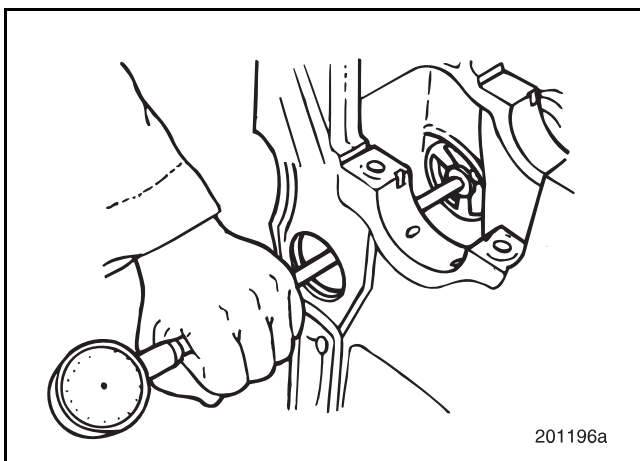

Figure 6-4 — Measuring Camshaft Bushing ID
- Using a telescope gauge or suitable inside micrometer, measure the ID of each camshaft bushing in the cylinder block. Record the dimensions. Refer to Figure 6-4.